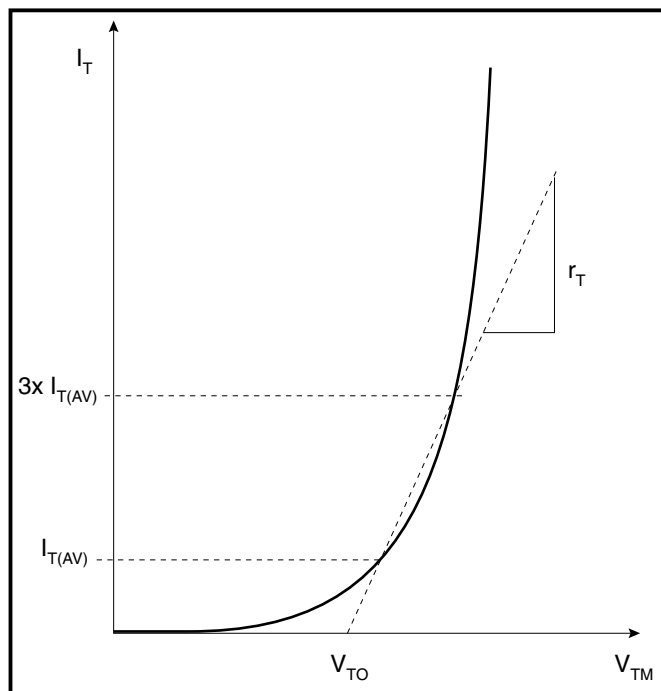

Fig.2
- 2) As fig. 2, where a chord is drawn through $I_{T(AV)}$ and $3x I_{T(AV)}$. This variation is the one used by Dynex for the calculation of data sheet power losses and current ratings. The definition is commonly used for thyristors. For rectifier diodes a chord through $3x I_{T(AV)}$ and $5x I_{T(AV)}$ sometimes gives a better result.